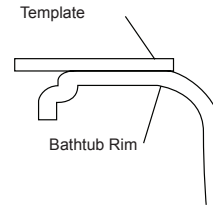

Figure 13 - Template Placement
- Position the template so that the desired undermount guidelines are aligned with the rim edge as shown (Figure 13).